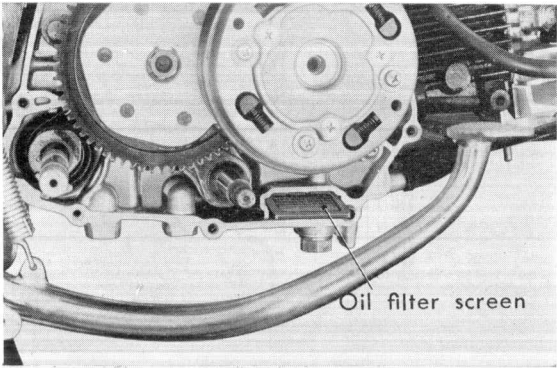

Figure 6-20. Cleaning oil filter screen
- (2) Remove the right crankcase cover, pull out the oil screen and wash in gasoline. (Fig. 6.20)